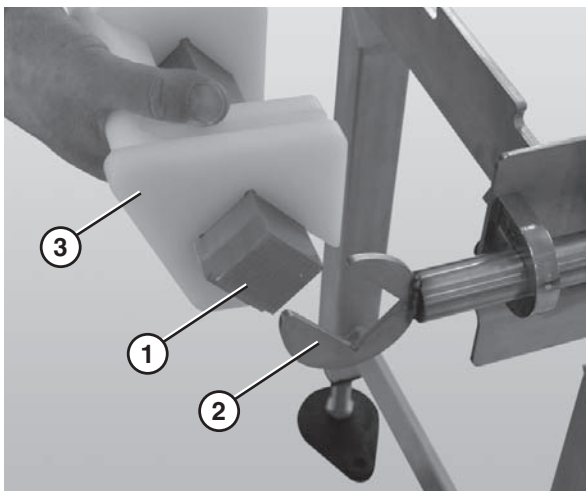

Figure 73
4. After all tracking pucks (**Figure 73, item 3**) are installed, slide the nose bar drive or transfer post (**Figure 73, item 1**) into the nose bar drive weldment or idler hands (**Figure 73, item 2**).